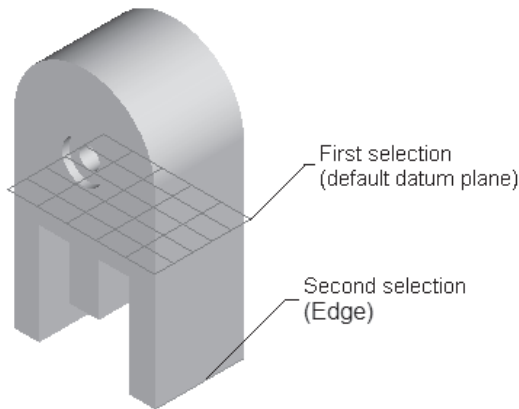
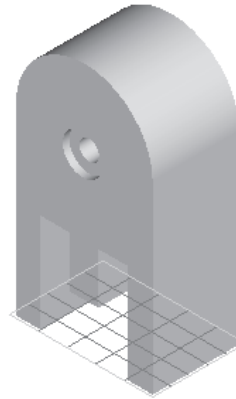

Figure 5-24 Selecting a datum plane and an edge to create a datum plane
Figure 5-25 Resulting datum plane
Figure 5-24 shows the selection of a default datum plane and an edge to define an offset datum plane. The resulting datum plane is at an offset to the selected datum plane and passes through the edge, as shown in Figure 5-25. The following steps explain the procedure to create this datum plane:
1. Invoke the **DATUM PLANE** dialog box. Select the first reference shown in Figure 5-24. The **Offset** constraint is automatically applied and will be displayed in the **References** collector. The **Translation** dimension box appears.
2. Now, use CTRL+left mouse button to select the second reference, which is a vertex shown in Figure 5-24. The **Through** constraint will be displayed in the **References** collector.
3. Choose the **OK** button from the **DATUM PLANE** dialog box. The datum plane that is created is shown Figure 5-25.